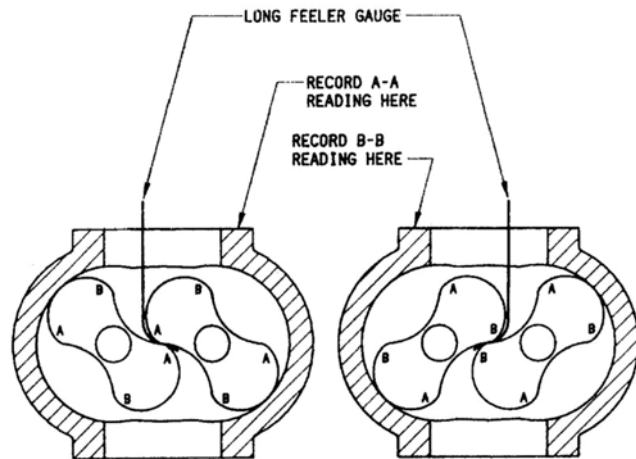

Figure 16. Checking Interlobe Clearances.
Using feeler gauges take interlobe readings and record on each side of housing as indicated in Figure 16 below. By removing or adding shim behind the helical gear, it rotates as it is moved in or out and the driven rotor turns with it, thus changing the clearance between rotor lobes.
**EXAMPLE:** Referring to Figure 16 below, check the clearance at AA (right hand reading) and BB (left hand reading). If AA reading is .009" (.23 mm) and BB reading is .003" (.08 mm) by removing .006" (.15 mm) shims, the readings will change one half the amount removed or .003" (.08 mm). AA should then read .006" (.15 mm) and BB should read .006" (.15 mm). The final reading should be within .002" (.05 mm) of each other.